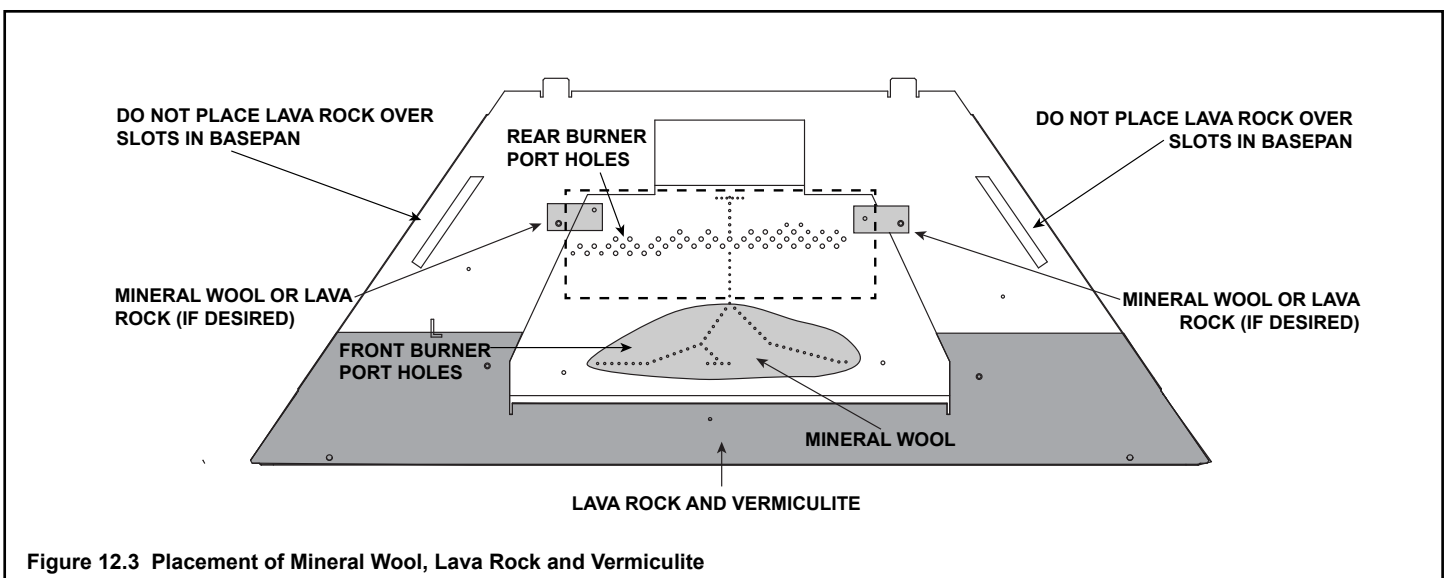

Figure 12.3 Placement of Mineral Wool, Lava Rock and Vermiculite
- Place a small amount of 1/2 in. diameter pieces (dime-size) mineral wool on the burner pan as shown in Figure 12.3. The mineral wool may be placed loosely over the front burner port holes in the burner pan. Do NOT press them onto or into the burner port holes. This will provide the “glowing embers” look.
Place the lava rock and mineral wool in an even layer just heavy enough to cover the metal surface. Stay within the zone indicated in Figure 12.3. It is not necessary to use the entire bag. Save the remaining amount for future use.